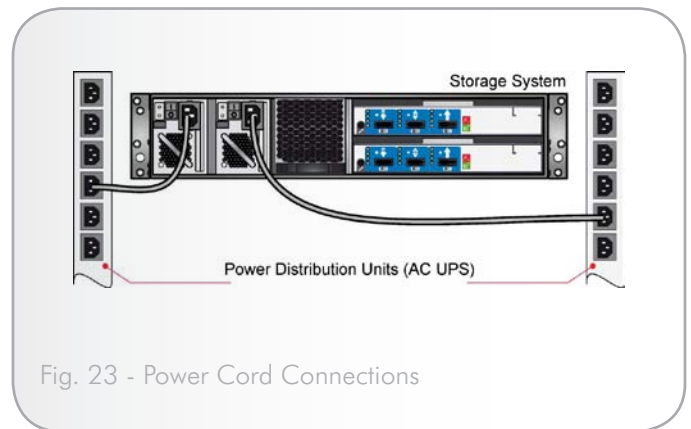

Fig. 23 - Power Cord Connections
2. Attach the power cord to the Power Distribution Unit (Fig. 23) in the rack or other power source.